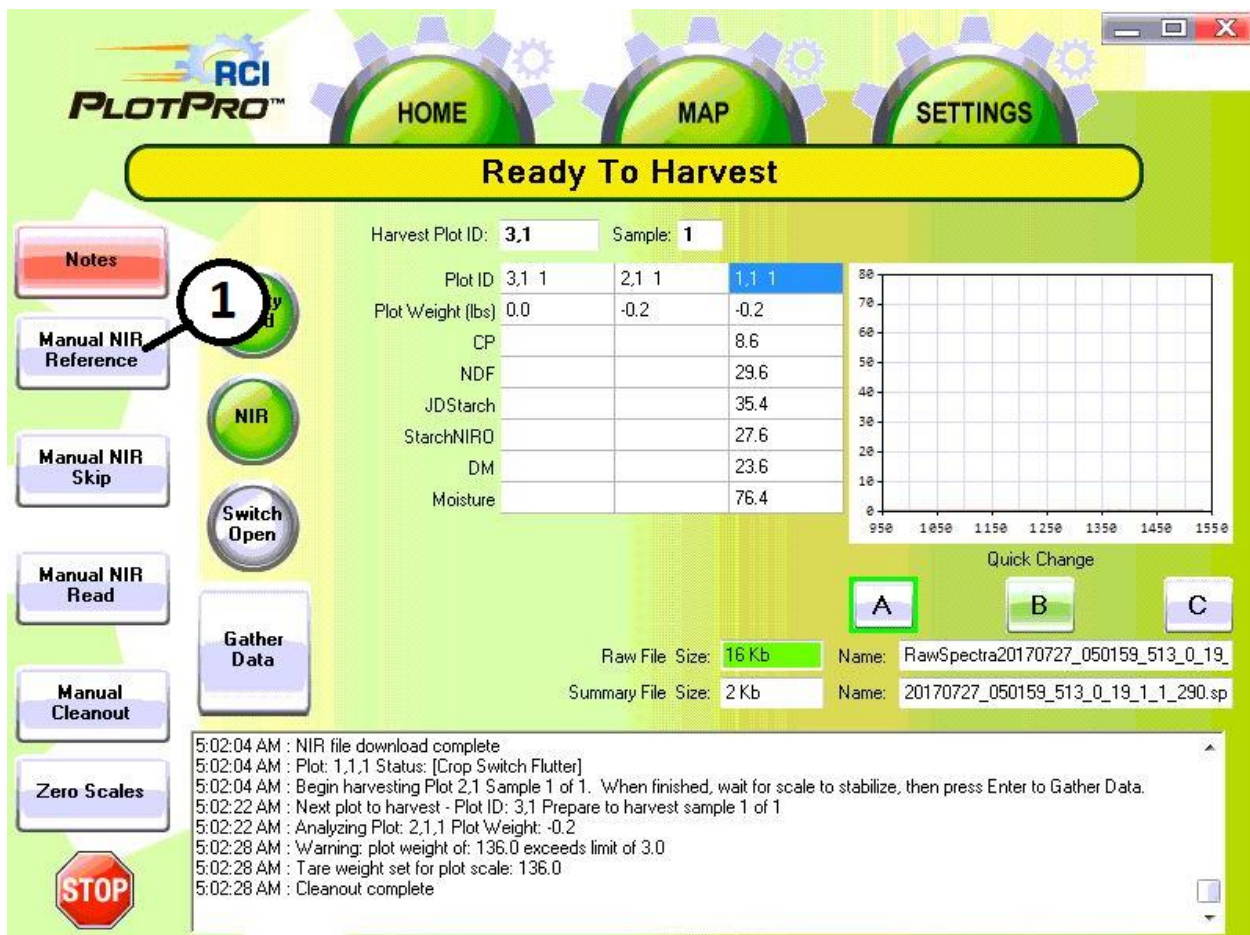

Figure 40. Manual NIR Reference
- G. See Figure 40.
This is the primary screen used when harvesting and collecting data. In general, controls are on the left of the screen. System status indicators are present next to the setup information. Results are displayed at the right. See Figure 40.